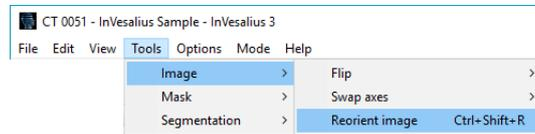

Figure 4.6: Menu to activate reorient image tool.
**Tools** menu, click **Image**, then **Reorient Image** (Figure 4.6).